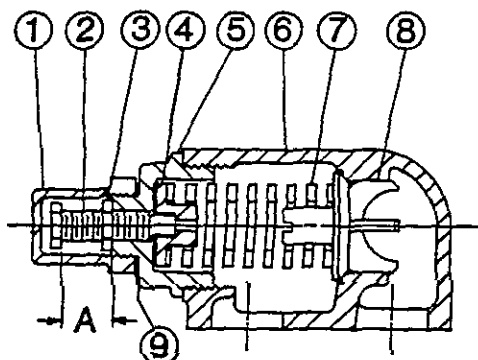

FIGURE 17
2. Measure and record length of extension of adjusting screw. Refer to "A" on Figures 17, 18 and 19.